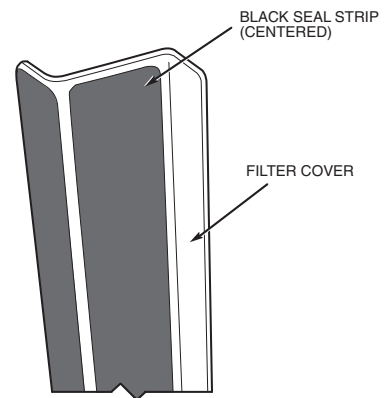

Fig. 33 — Attaching Seal Strip to Filter Cover
15. Attach black seal strip (provided) to filter cover. Seal strip should be applied centered over the holes of the one flange, making sure to fully cover holes and centered over the other large flange. See Fig. 33.